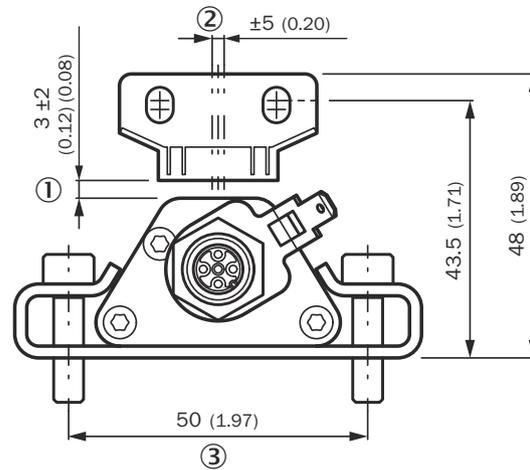
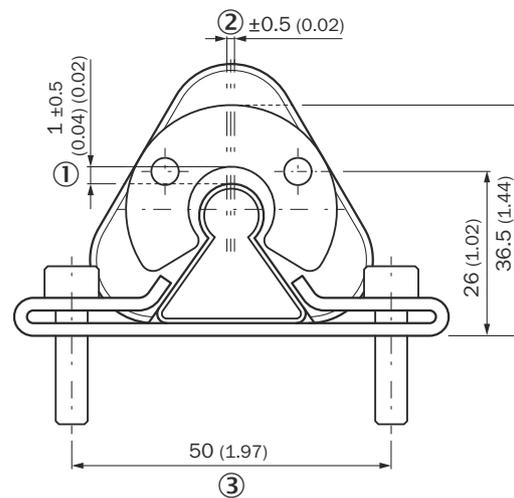
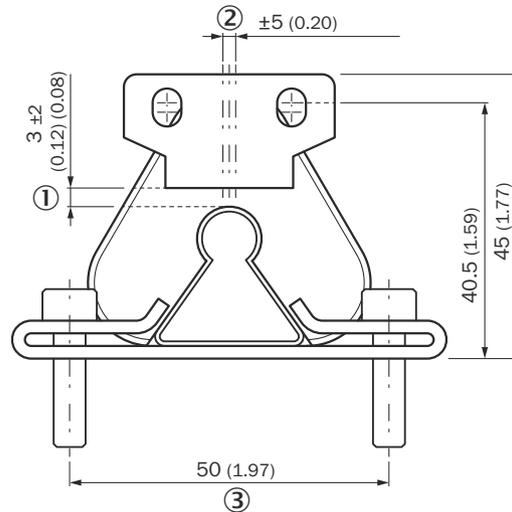

Figure 21: Dimensions and distances for MAG-B-180-xx position magnet on DAX® Low Profile
Figure 22: Dimensions and distances for MAG-B-180-xx position magnet on DAX® Slider
Figure 23: Dimensions and distances for MAG-B-180-xx position magnet on DAX® Slider
- ▶ The following values must be observed for the nominal distance ① between the position magnets and linear encoder and for the center offset ② (see figure 21, page 25 , see figure 22, page 25 and see figure 23, page 26):